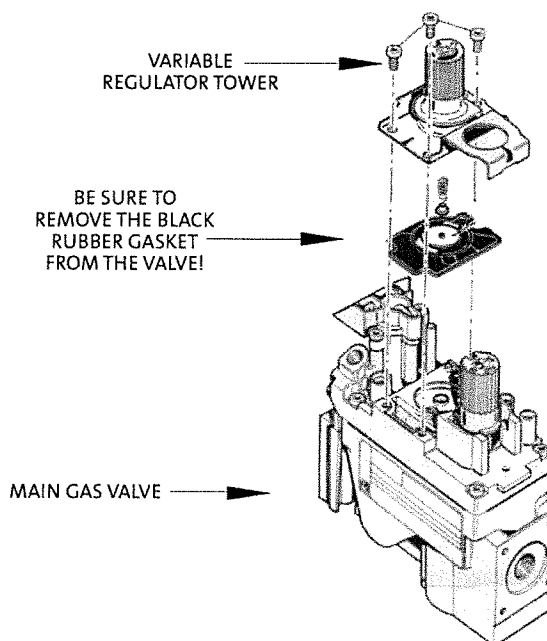

Figure 16. Regulator parts.
17. Replace the variable regulator. Using a Torx T-20 screwdriver, remove the three specialty screws from the HI/LO regulator on the front of the valve. Note: To help identify which screws to remove, refer to the new regulator in the kit. See Figure 16.